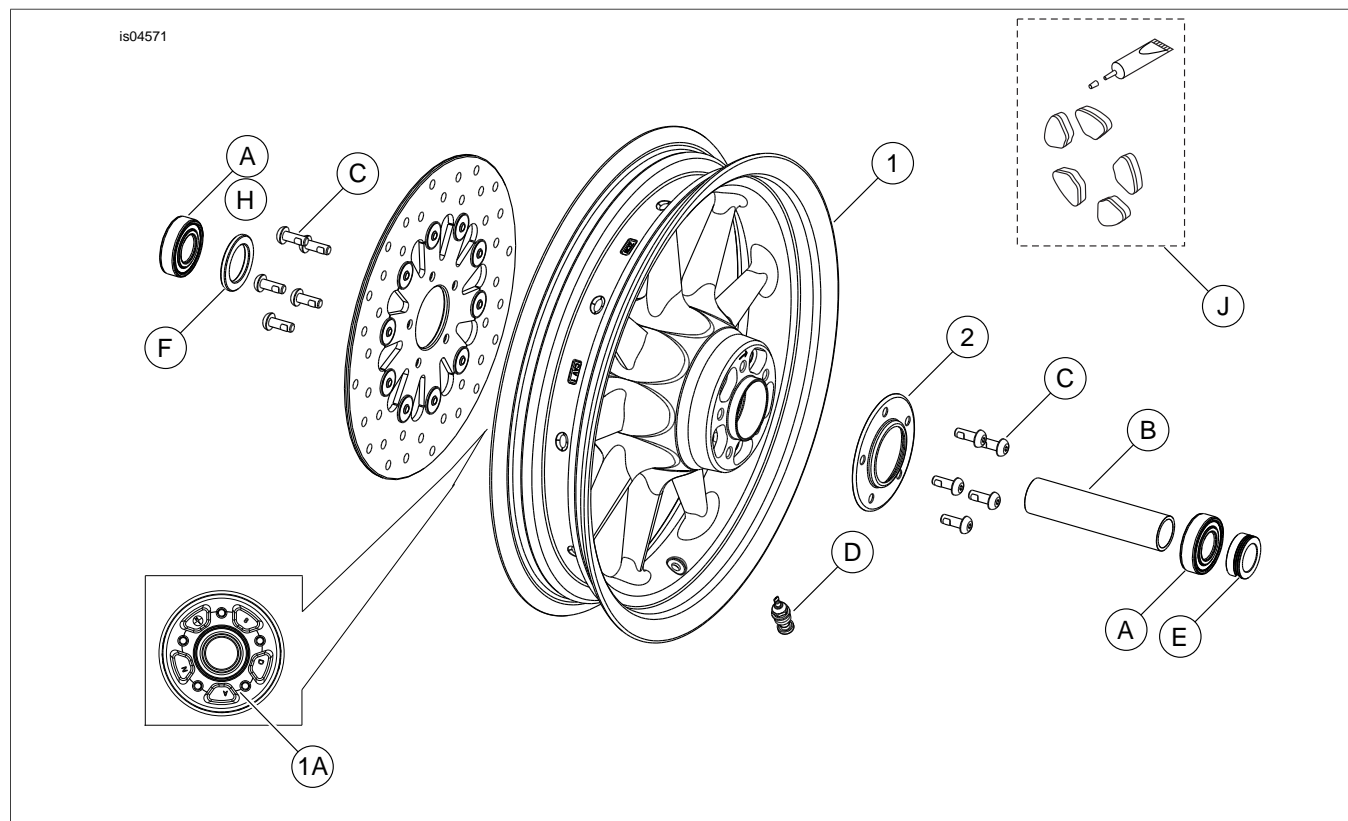

Figure 1. Service Manual: Front Nine-Spoke Wheels
See Figure 1 and Service Parts Tables.
2. See Figure 1. Install valve stem assembly (D) on wheel. Refer to TIRES in service manual.